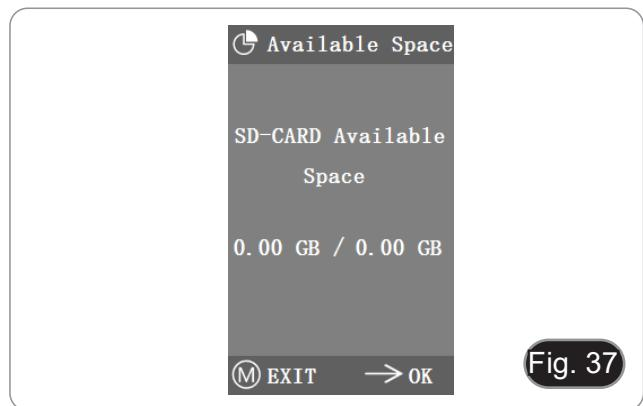

Fig. 37
2. If "0.00 Gb / 0.00 Gb" is displayed (Fig. 37), the SD card was not successfully inserted; please try to reinsert it.